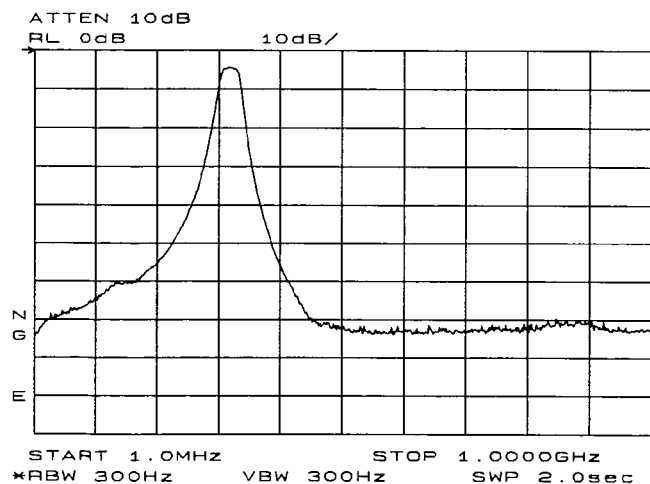

Figure 3-23. Normalized Trace
- Normalization eliminates the frequency response error in the test-setup. When normalization is on, trace math is being performed on the active trace ($A - B + NRP \rightarrow A$), where A is the active trace, B is the stored thru calibration trace, and NRP is the normalized reference position. Note that the units of the reference level, dB, reflect this relative measurement (see Figure 3-23).